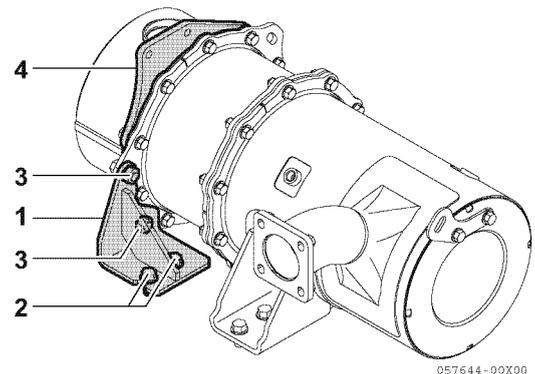

Figure 13-17
- Temporarily fasten the DPF stay (1 **Figure 13-17**) on the silencer (or outlet flange) side to the flywheel housing using M10 flange bolts (2 pcs.) (2 **Figure 13-17**).
- Before fully tightening, slightly loosen the M10 flange bolts (2 pcs.) (3 **Figure 13-15**) that affix the stiffener (4 **Figure 13-15**) and the DPF stay, and after fully tightening the DPF stay and the flywheel housing bolts, (2 **Figure 13-17**), fully tighten the stiffener bolts (3 **Figure 13-17**).
- Reattach the sensor bracket that had been moved to the engine side to the outlet flange side stiffener (4 **Figure 13-17**). (M8 flange bolts (2 pcs.))